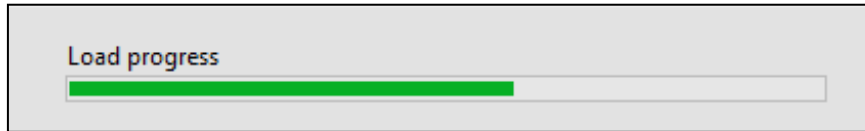

Figure 4-5: PRO monitor load progress window
- d. After "**Load data from monitor**" button is pushed a window as shown in the Figure 4-5 opens indicating that Upload is in progress from PRO monitor to CRA SW.